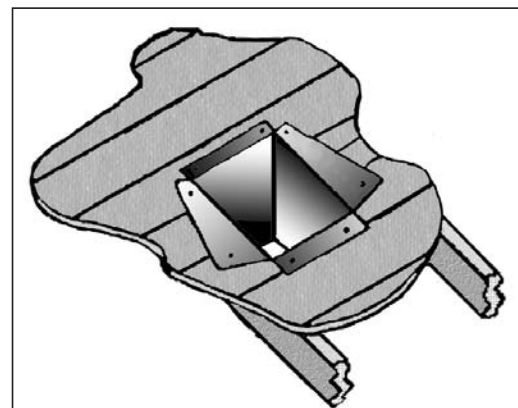

Figure 29: Cathedral Ceiling Support Box Installation.
STEP 5. Using tin snips, cut the "Support Box" from the top corners down to the roof line, and fold the resulting flaps over the roof sheathing (Figure 29). Before nailing it in to the roof, run a bead of non-hardening mastic around the top edges of the "Support Box", to make a seal between the box and the roof. Clean out any combustible material from the inside of the "Support Box".